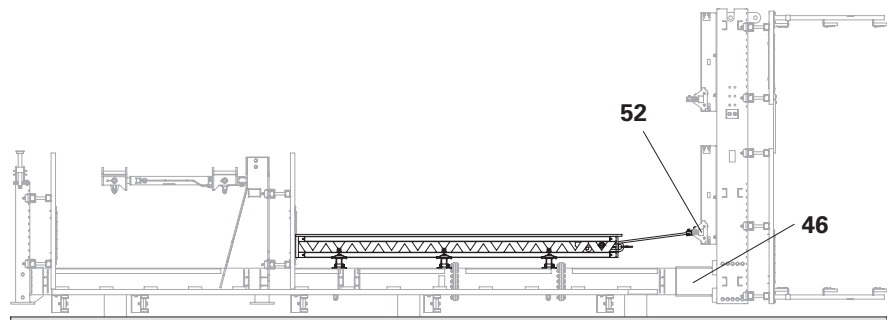

Fig. C3.07
8. Temporarily fix the Trolley HTP (**52**) to the Vertical Post Top 2100 ACS (**46**). (Fig. C3.07)